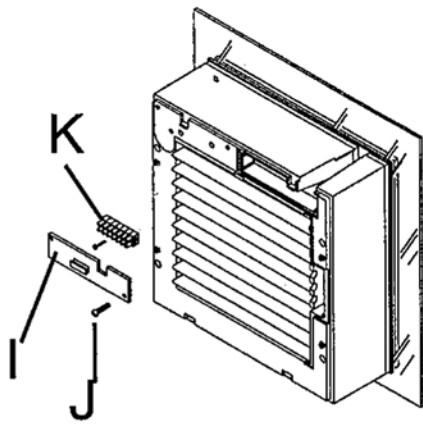

fig. 8
8. Remove the screws (J) from the connection box cover (I). (**FIG 8**)
9. Remove the cover from the cable entry (H) and carefully cut a suitable hole in it. Thread the connection cable through the hole until it reaches the connection box cover (I) connect the cable to the terminal strip (K) as shown in the corresponding wiring diagram.
10. Position the covers on the cable entry point (H) and the connection box (I) and replace the screws (J).
11. Replace the front grille (A) and fix it in place using the 4 screws (L) previously removed.
8. Remove the screws (J) from the connection box cover (I). (FIG 8)